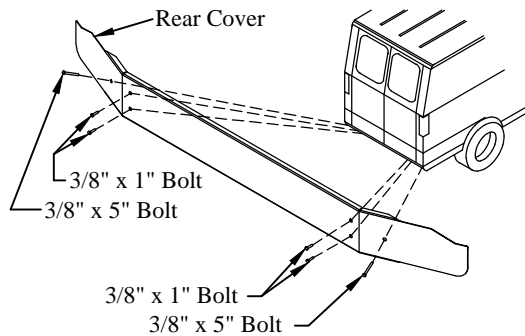

Figure 10: Rear cover hardware location.
9. **Install** the rear cover on the rear of the van (Figure 10).
10. **Install** the supplied two (2) 3/8" x 5" bolts and flanged lock nuts in the rear cover (Figure 10).